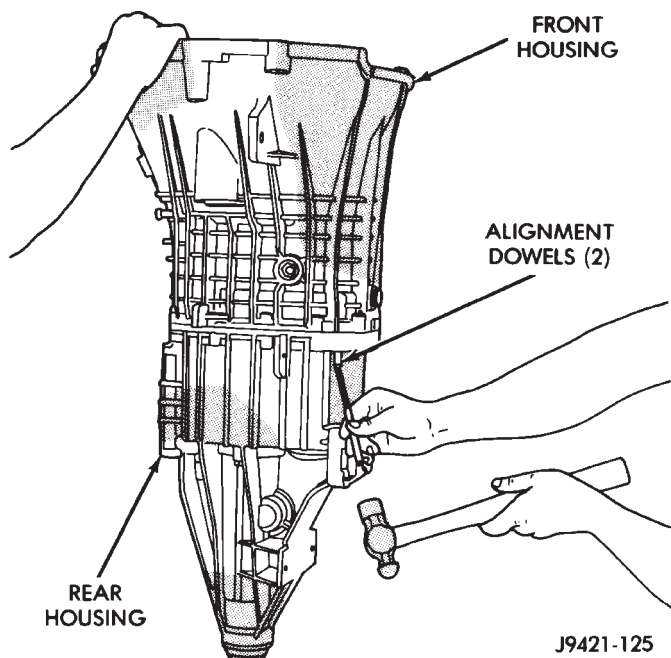

Fig. 122 Reseating Housing Alignment Dowels
(8) Tap rear housing alignment dowels back into place with hammer and pin punch (Fig. 122). Both dowels should be flush fit in each housing. Have helper hold transmission upright while dowels are tapped back into place.